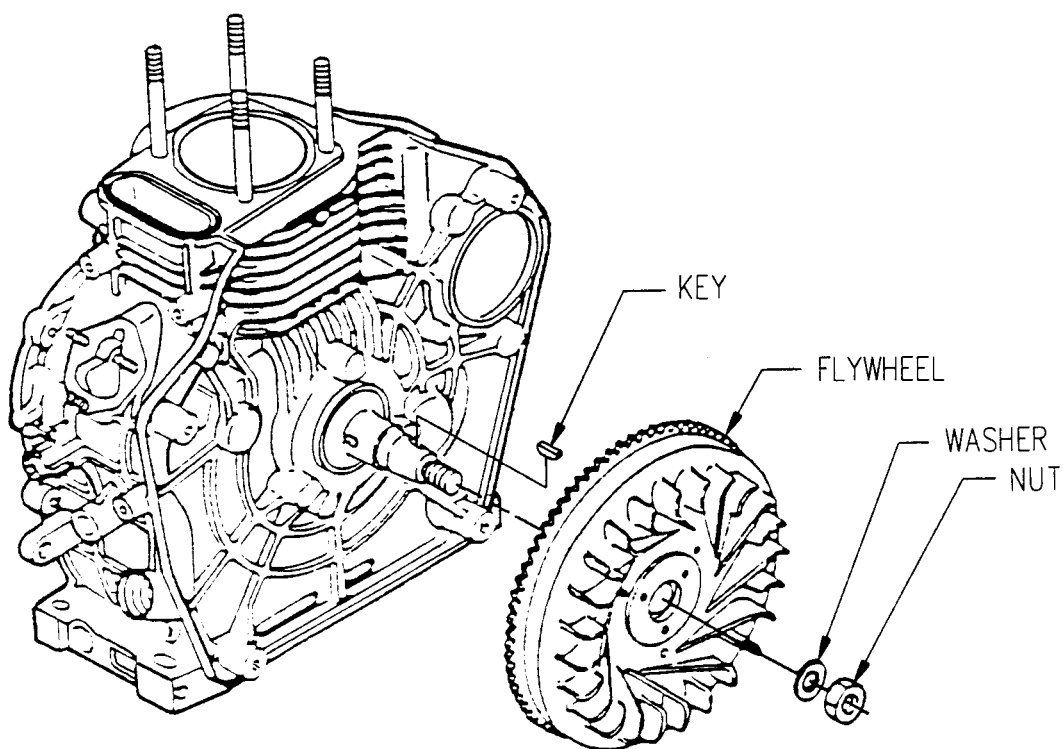

Figure 5-30. Flywheel
- (5) Remove nut (Figure 5-30) and washer securing flywheel to crankshaft.
- (1) Position key (Figure 5-30) in slot on crankshaft.
- (2) Install flywheel on crankshaft with washer and nut. Apply lubricating oil (Item 14, Appendix E) to nut. Using flywheel locking handle to hold flywheel, torque nut to 87-94 lbs-ft (118-127 Nm).
- (3) Install starter pulley on flywheel, refer to paragraph 4.54.c.
- (4) Install cooling fan cover, refer to paragraph 4.53.d.